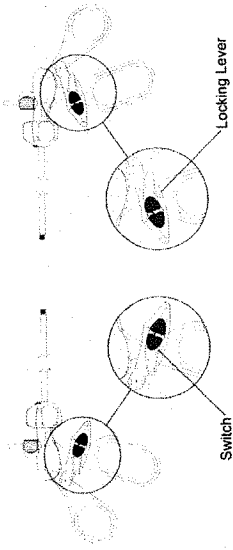

Fig. 3
- Push switch (see Fig. 3) forward in order to engage the ratchet mechanism.